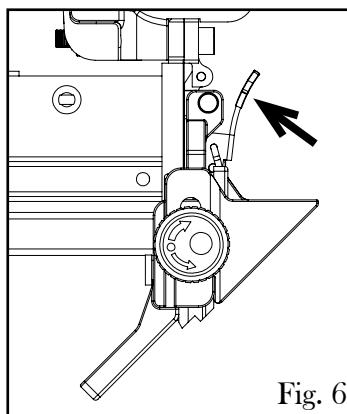

Fig. 6
1. Open the plate pressing latch (Fig. 6).
3. Close the plate pressing latch (Fig. 6).